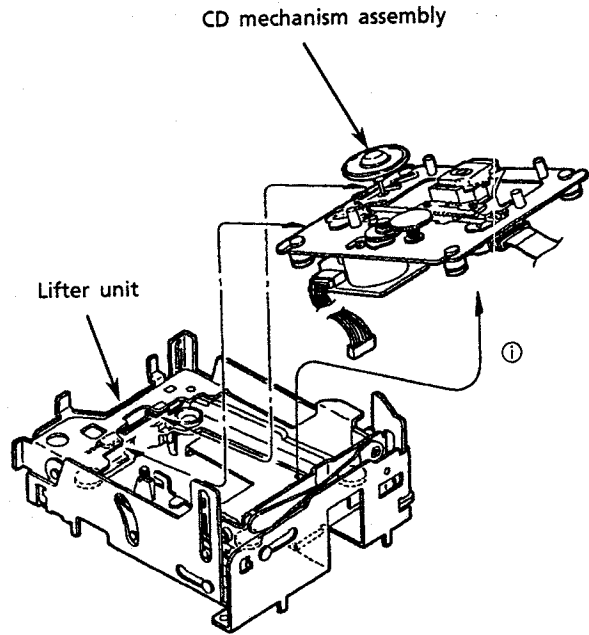

Fig. 30
2. Lift the CD mech. ass'y toward the direction (i) to remove it from the lifter unit. (See Fig. 30.)